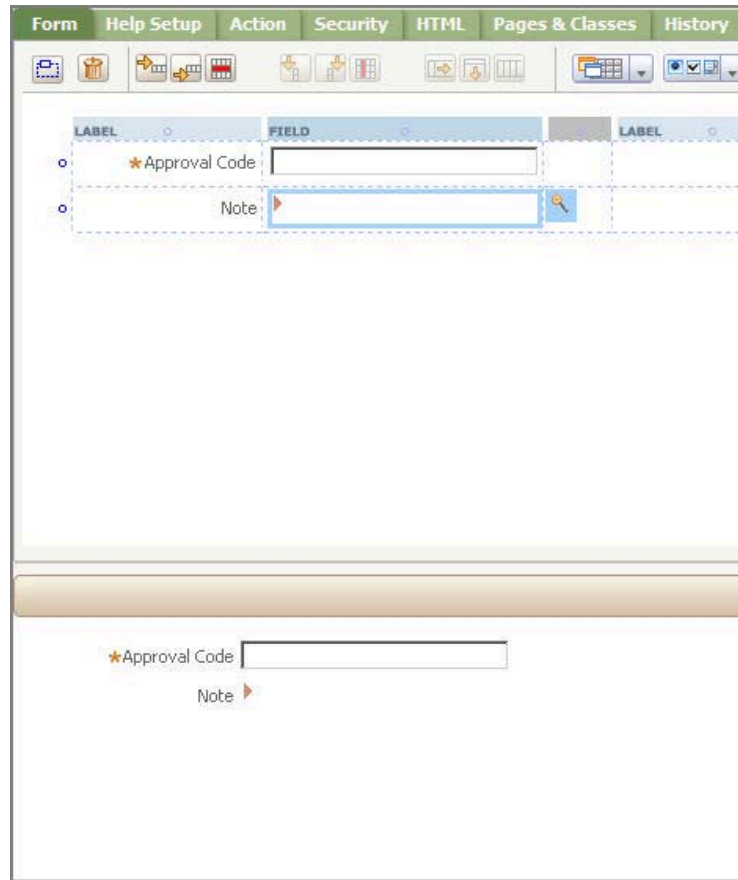

Figure 4-11. UI Preview
7. Click Preview  to view the runtime presentation of the new flow action rule, at the bottom of the window (Figure 4-11).